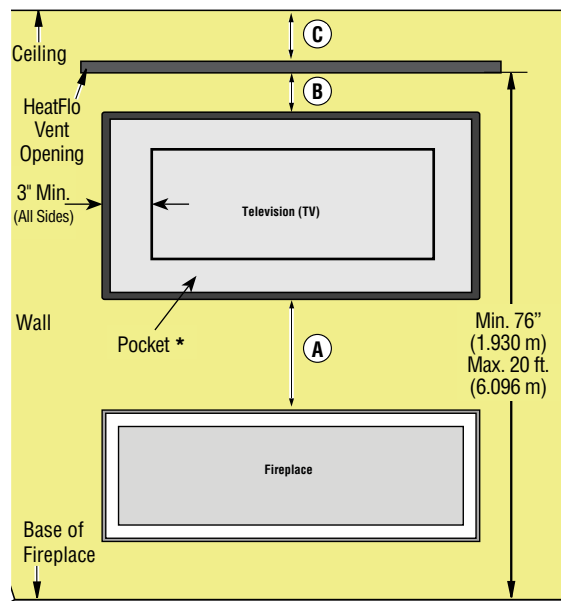

Figure 9 - Dimensions for Television (TV) Installed Above Fireplace on a Recessed Wall Pocket
4. **Figure 4**, shows a typical framing of this fireplace. **Figure 7, Page 15** shows framing for HeatFlo kit installation. **Figure 9, Page 15** shows a recessed framing for HeatFlo kit installation. All minimum clearances must be met. Vent pipe needs to maintain 1" clearance. Wood studs may be notched. Fireboard is provided for facing around the fireplace.